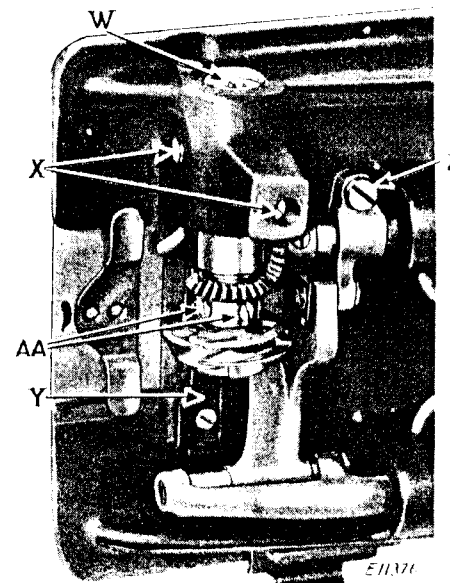

Fig. 21
Remove the throat plate; clean the lint and dirt from between the feed points and replace the throat plate; tip the machine back and turn the balance wheel toward you until the feed dog is at its highest position; loosen screw (Z, Fig. 21) and raise or lower the feed dog as required, then tighten the screw (Z).
The point of the hook should come as close as possible to the needle without touching it. Loosen the four screws (X and AA, Fig. 21) and slide the hook to the correct position, then tighten the two screws (X). Reset the gear on the hook shaft and tighten screws (AA).
Remove the bobbin case stop (Y, Fig. 21), loosen the hook spindle screw (W) a few turns and tap it lightly to loosen the hook. Then remove the screw (W) and withdraw the hook from its socket.